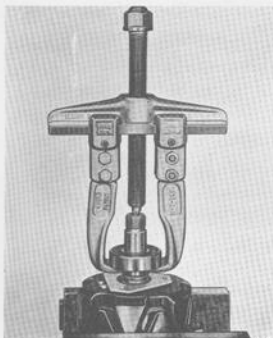

Fig. 3-16. Removing bearings
2. Pull the bearings off with a claw puller, see Fig. 3-16.